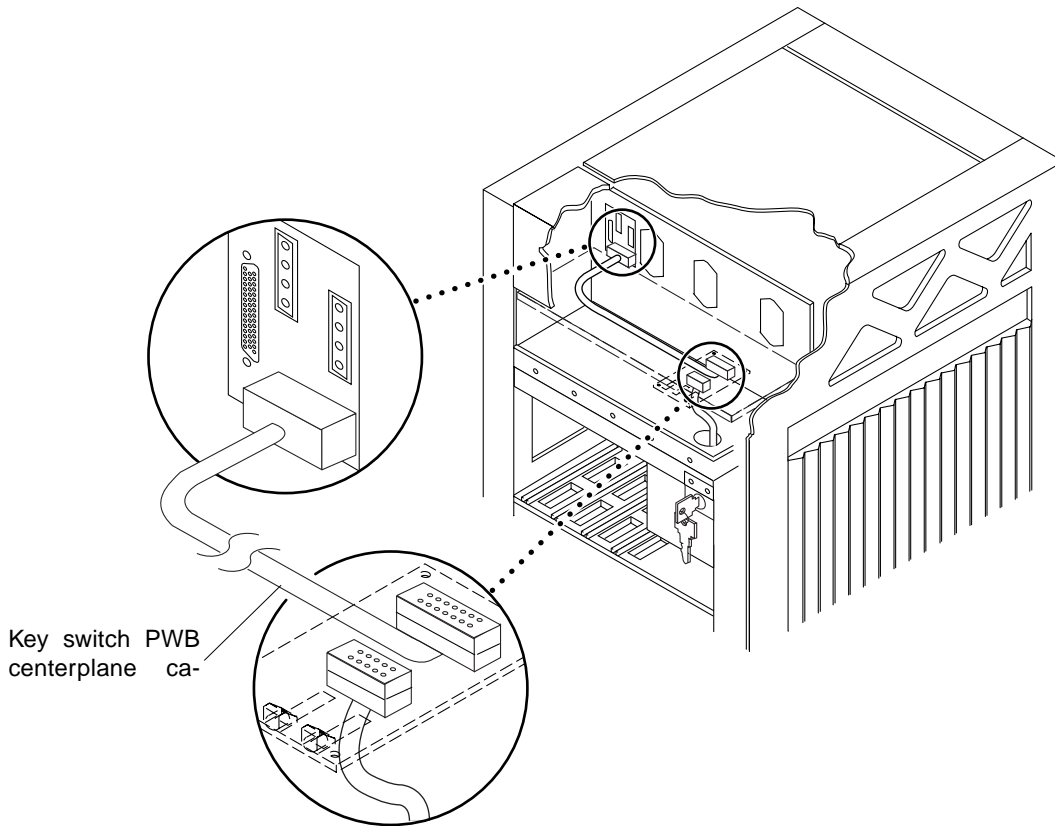

FIGURE E-8 Key Switch PWB Centerplane Cable
2. **Disconnect the key switch PWB centerplane cable from the centerplane** (FIGURE E-8).
The key switch PWB centerplane cable is in back of the key switch lock cable assembly (FIGURE E-8).